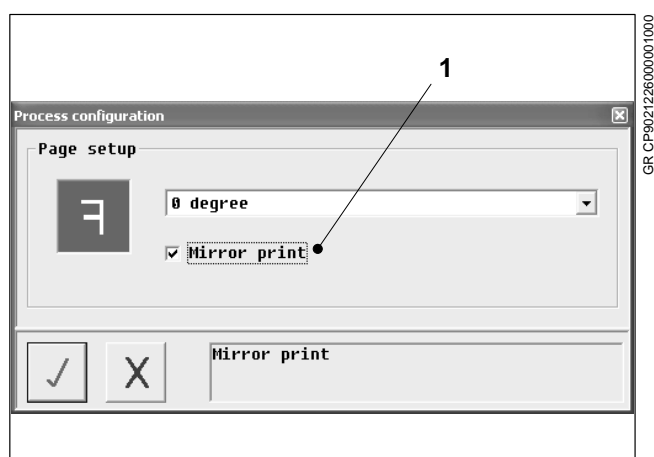

Fig. 21 Mirroring the image data
10. Click on the *Mirror page* option (Fig. 21/1) to mirror the image data. A check appears in the box.
In Figure 21 the image data is mirrored and not rotated (0 degrees).